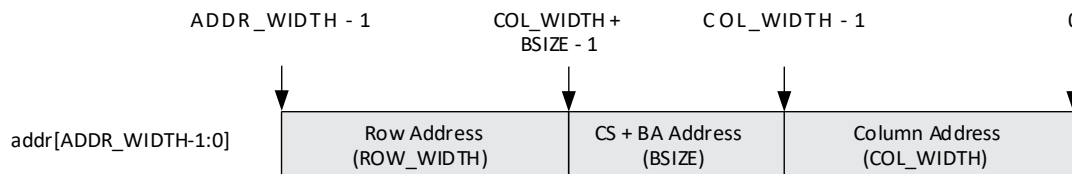

Figure 2.4. Local-to-Memory Address Mapping for Memory Access
Mapping local addresses to memory addresses is an important part of system design when implementing a memory controller function. You must know how the local address lines from the memory controller connect to those address lines from the memory because proper local-to-memory address mapping is crucial to meet system requirements in applications such as a video frame buffer controller. Even for other applications, careful address mapping is generally necessary to optimize system performance. On the memory side, the address (A), bank address (BA) and chip select (CS) inputs are used for addressing a memory device. You can obtain this information from a given data sheet. Figure 2.4 shows the local-to-memory address mapping of the Lattice DDR3 memory controller cores.